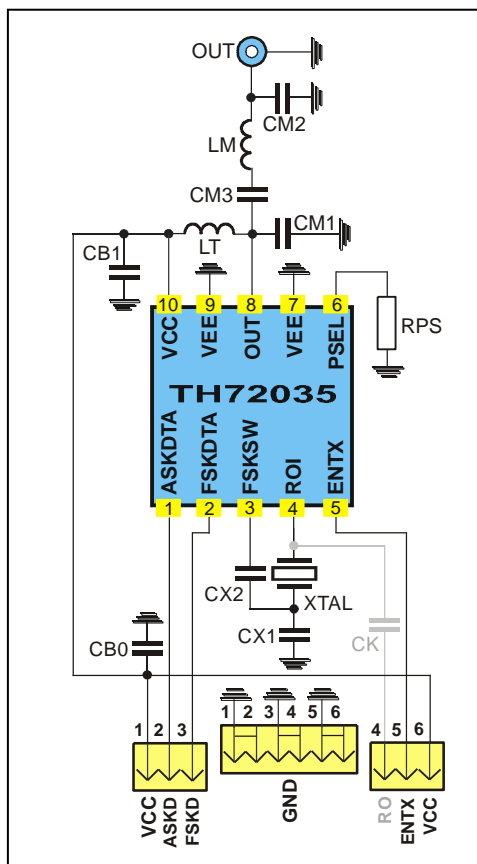

Fig. 7: Circuit diagram with $50\ \Omega$ matching network
4.1. Board Component Values to Fig. 7